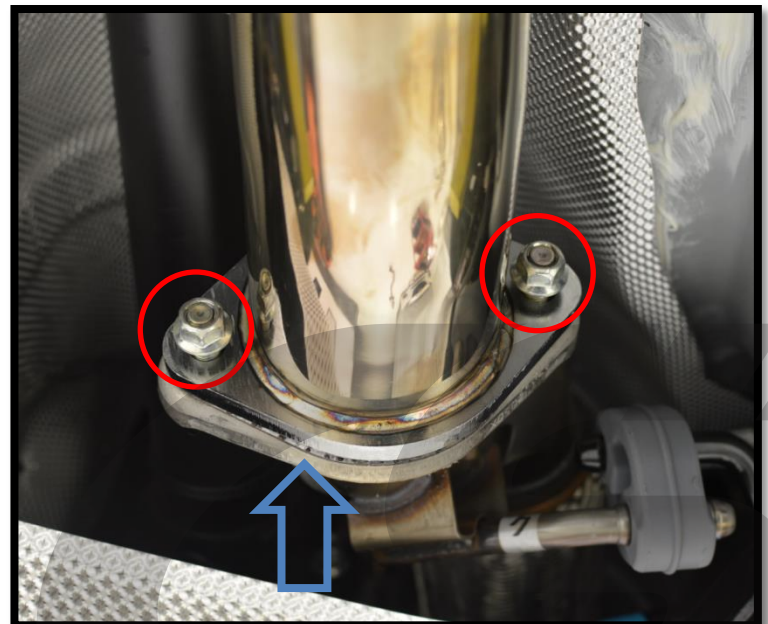

Figure 5b
- b) **Attach front flange of the CorkSport Midpipe Front Section to the OE downpipe.** Place a supplied 80mm gasket between the two flanges and hand tighten with two OE nuts. The nuts are shown in red and the gasket is shown in blue in Figure 5b.